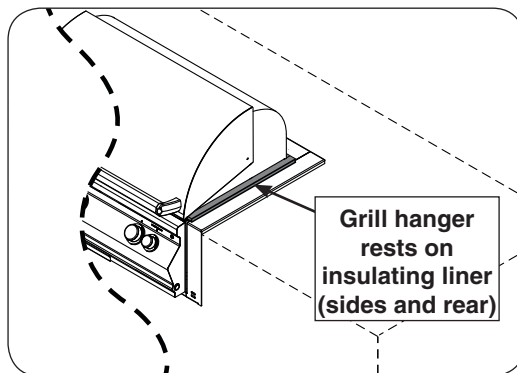

Fig. 4-2 Install grill into liner
**Important:** Do not allow the grill hanger to come in contact with the countertop or any combustible surface (see Fig. 4-2).